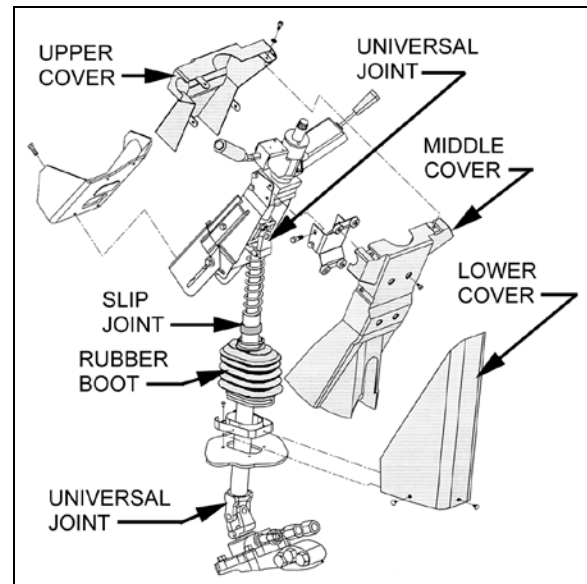

FIGURE 8: STEERING COLUMN COVERS
To disassemble the steering column from system, refer to figure 8 & 9. The steering column has no lubrication points. The lower steering column U-joint is easily accessible through the front service compartment. The upper steering column U-joint and the steering slip joint are accessible from the front driver's area. To access these joints, proceed as follows:
1. From the front driver's compartment area, remove the three plastic fasteners on steering column lower cover. Remove the lower cover (Fig. 8).
2. Remove the 2 clockspring mounting screws and then remove the clockspring. You will have to disconnect the clockspring harness connector located lower along the steering wheel column. If necessary, remove the steering column covers (Fig. 8).